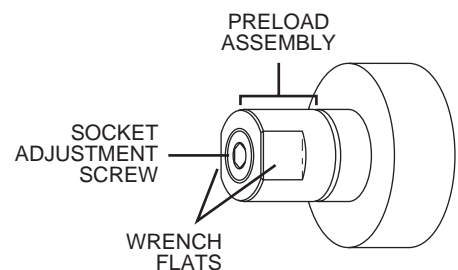

Figure 1
- Unscrew the preload assembly from the valve body. Wrench flats are provided for this purpose. (**Figure 1**)
If the valve leaks, tighten the socket adjustment screw (see **Figure 1**) in increments of approximately 1/16 turn, cycling the valve through a complete revolution between each increment. Test after each additional 1/16 turn.